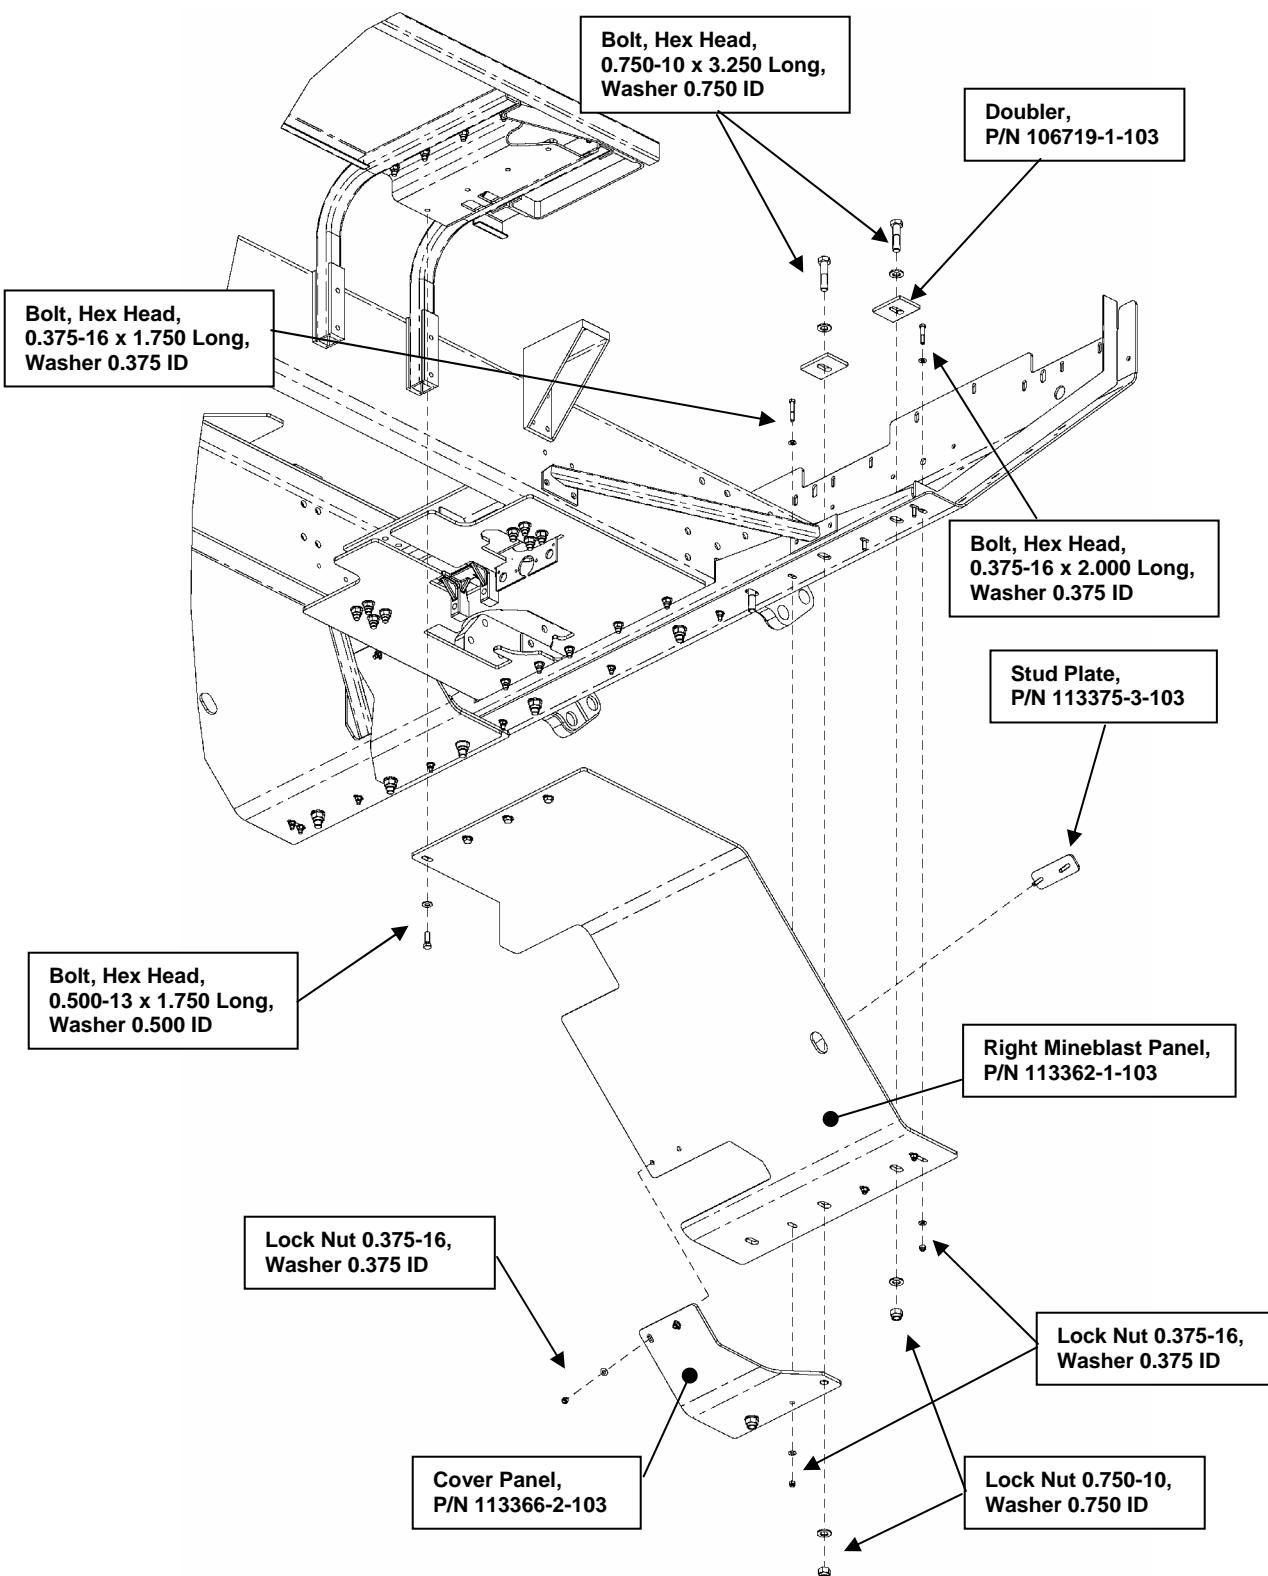

Figure 66. Underbody Armor, Right Side, installation.
- r) Place three Doublers (P/N 106719-1-103) in the Frame Channel over the three large holes that receive 0.750-in. bolts (see Figure 66).
- s) Using material handling equipment (hoist, forklift, etc.), orient the Right Mineblast Panel (P/N 113362-1-103) into the installed position and install the 0.500-13 X 1.750-in.-long bolts into the Right Mineblast Bracket (P/N 113365-1-103). Install one (1) 0.750-10 X 3.250-in.-long bolt into the outermost hole, as shown in Figure 66.
- t) Place the Stud Plate (P/N 113375-3-103) into the holes of the Right Mineblast Panel, as shown in Figure 66.
- u) Install the Cover Panel (P/N 113366-2-103) and the Cab Step using the hardware shown in Figure 66.
- v) Install the remaining hardware shown in Figure 66.